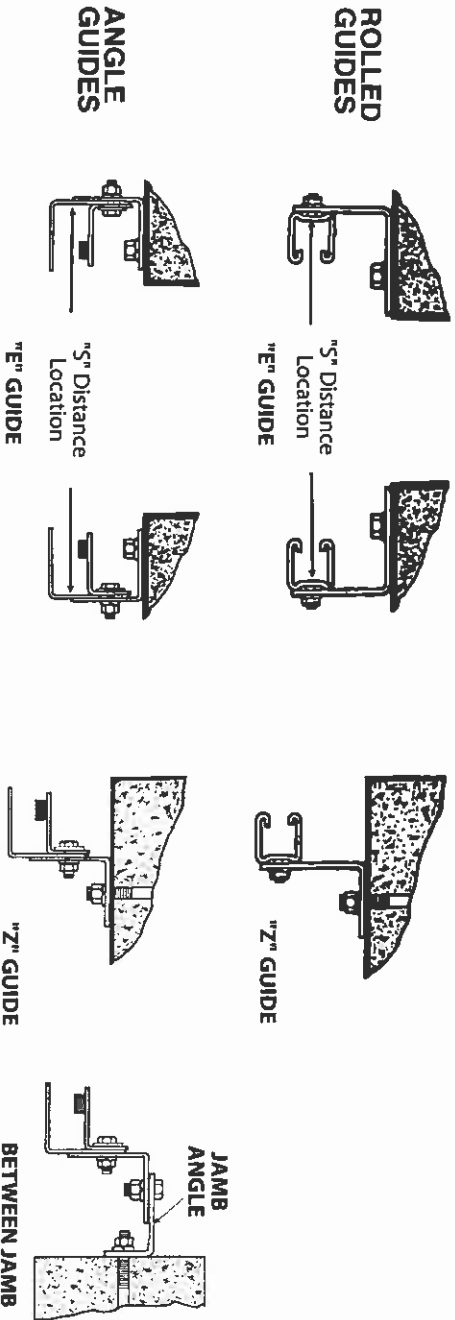

Fig 4
- Are the guides you received suitable for the jambs? Compare the guides type shown on the "Door Installation Data" sheet with Figure 4.
- Locate the guide assemblies such that the "S" distance exists between the guides as shown in Fig 4 on page 5.